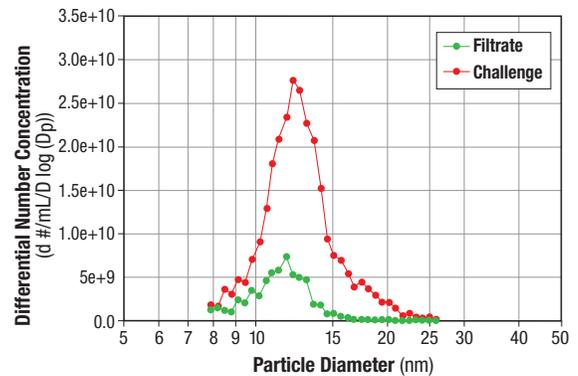

**Figure 3 :** Modern multi-platform software controls the LNS system and provides data analysis tools with functionality to run methods and protocols.
- LNS software to rapidly invert the concentration measurement to a particle size distribution. The intuitive software guides the user through measurement and data analysis. Figure 3 shows a sampling of the software screens.